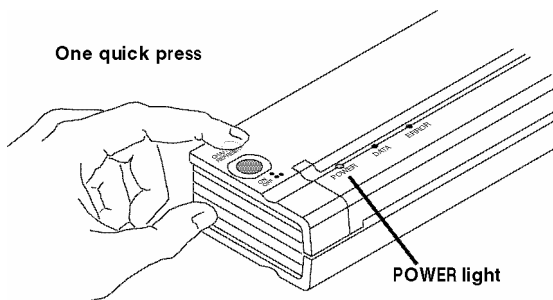

FIGURE 8. Turning the printer ON
2. Turn the printer on by pressing the main switch once quickly. The POWER indicator lights up. See Figure 8.